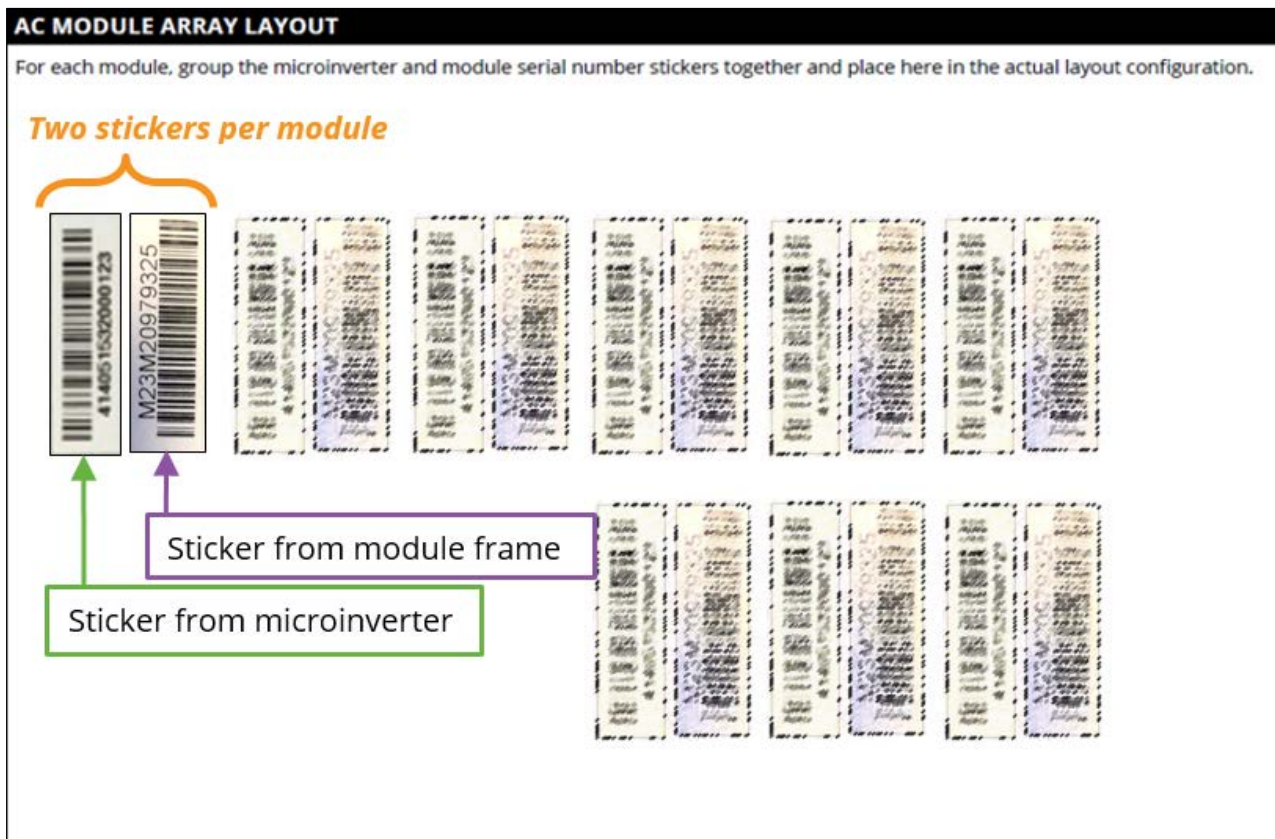

Fig. A1
1. To create the array layout diagram: for each module, remove its frame sticker and its microinverter sticker and place them next to each other (in the same relative location as that module's actual location in the array) in the **AC MODULE ARRAY LAYOUT** area of the Checklist (Fig. A1):